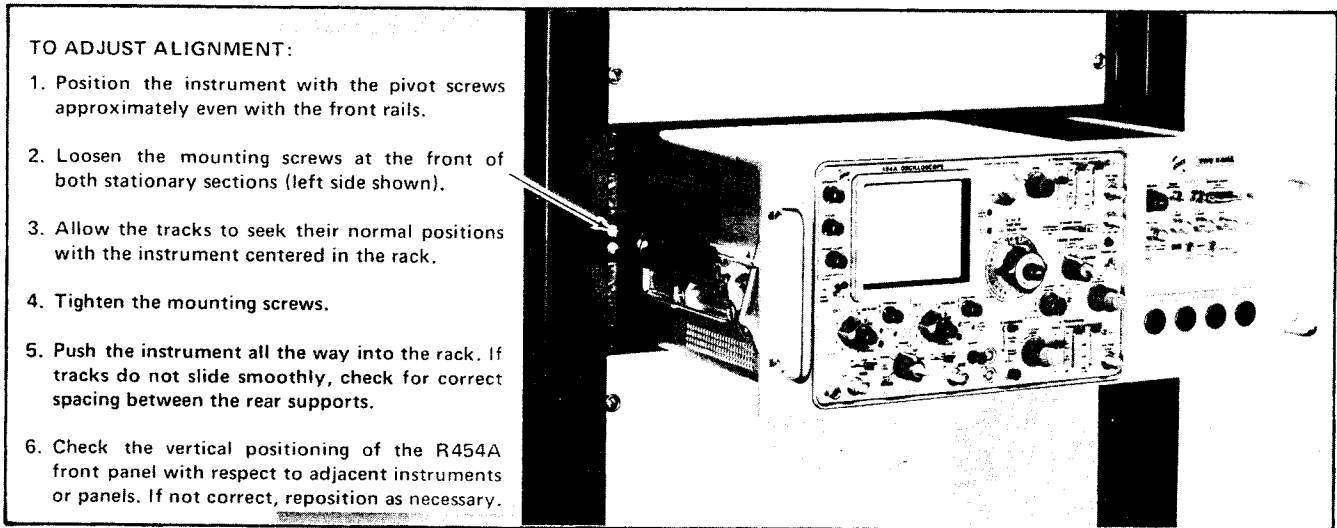

Fig. 6-10. Alignment adjustments for correct operation.
11. Adjust the alignment of the stationary sections according to the procedure outlined in Fig. 6-10. (If the rear alignment is changed, recheck the rear support pins for correct alignment.)